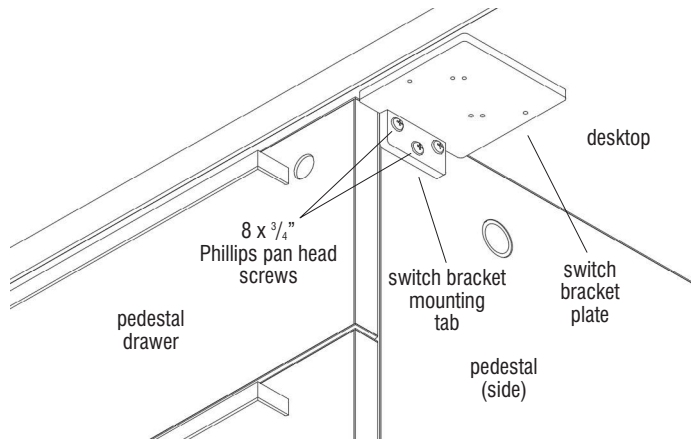

Figure 1
1. Position the switch bracket plate under the front, user side of the desktop, with the switch bracket mounting tab against the pedestal and straight, making sure the switch bracket is no higher than the top of the pedestal, and positioned to be flush with the front edge of the pedestal drawer face (Figure 1).
2. Using the correctly positioned switch bracket as a template, mark the three mounting tab hole locations to the side of the pedestal, then move the switch bracket away. Using a cordless power drill and a 1/32" drill bit, carefully bore three holes at the center of the marked locations on the pedestal side (Figure 1).
3. Align the mounting holes of the switch bracket mounting tab with the pre-drilled holes on the side of the pedestal and secure using three #8 x 3/4" Phillips pan head screws. Take care not to over tighten (Figure 1).